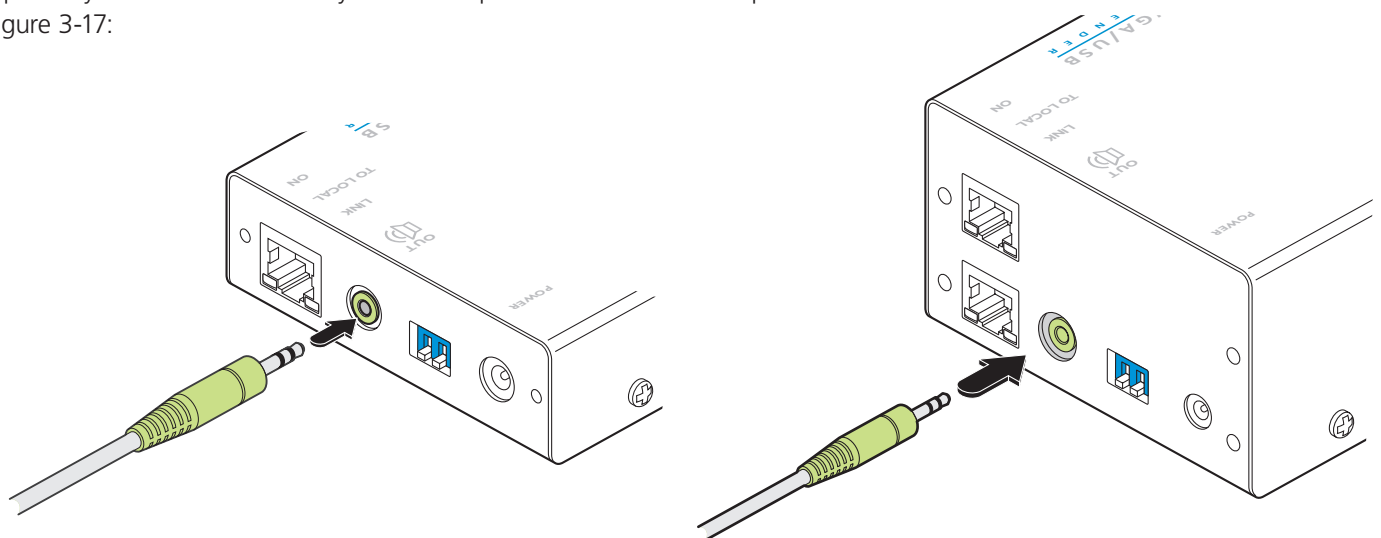

Figure 3-17. Optionally attaching stereo speakers
- 1 Optionally attach the lead from your stereo speakers to the audio output socket on the remote module as shown in Figure 3-17: